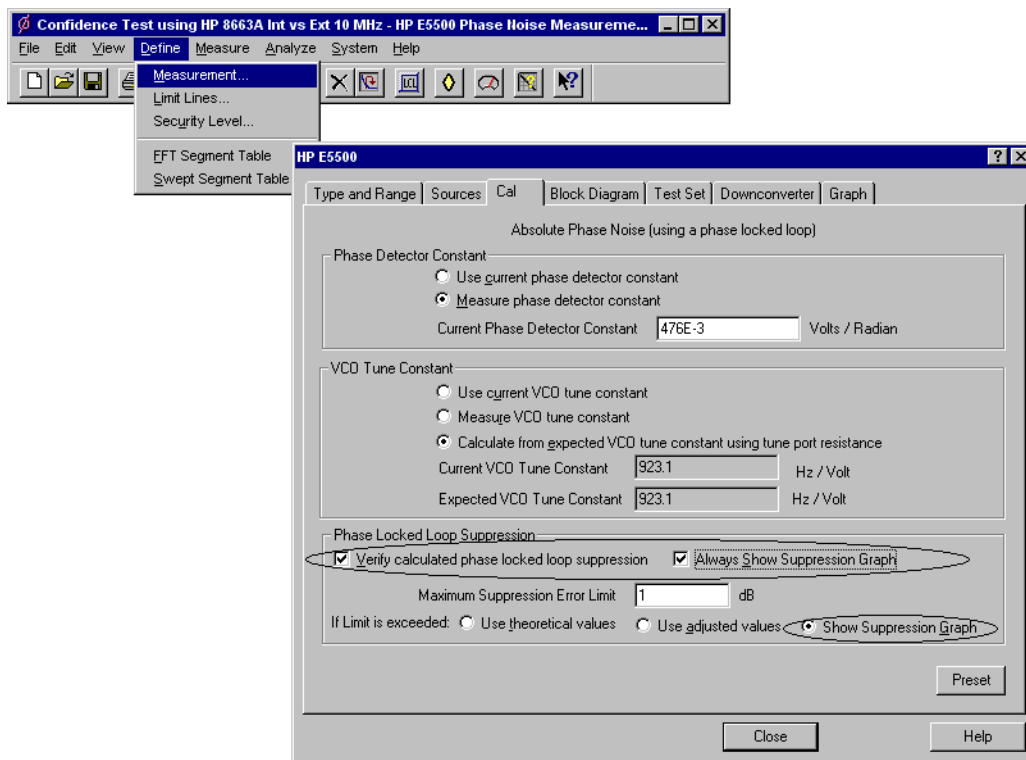

Figure 5-15 Selecting Loop Suppression Verification
- 1 Using Figure 5-15 as a guide, navigate to the **Cal** tab.